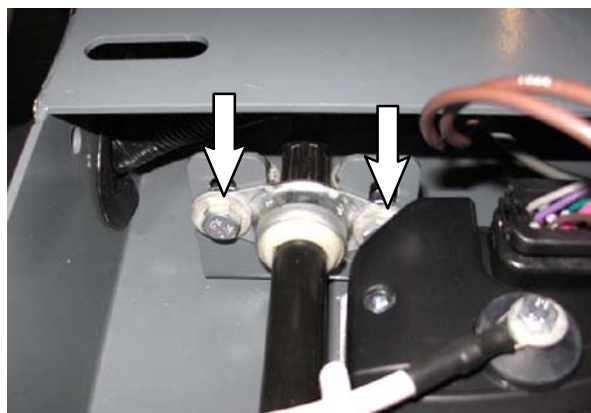

FIG. 50
27. Tighten hardware holding the flange bearing to the support bracket (24 Nm / 18.5 ft lbs). (Fig. 50)